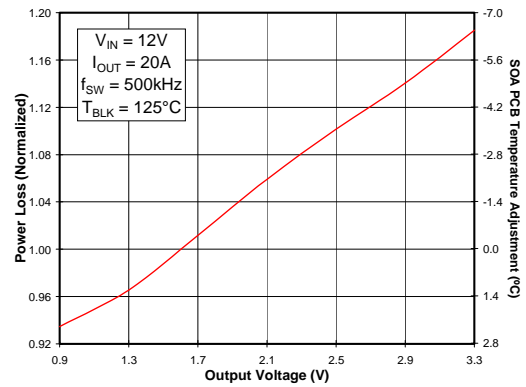

Fig 4. Normalized Power Loss vs.  $V_{OUT}$
- (Fig. 4) Normalized power loss for output voltage  $\approx 1.1$
- (Fig. 4) Normalized SOA PCB Temperature for output voltage  $\approx -3.5^\circ\text{C}$